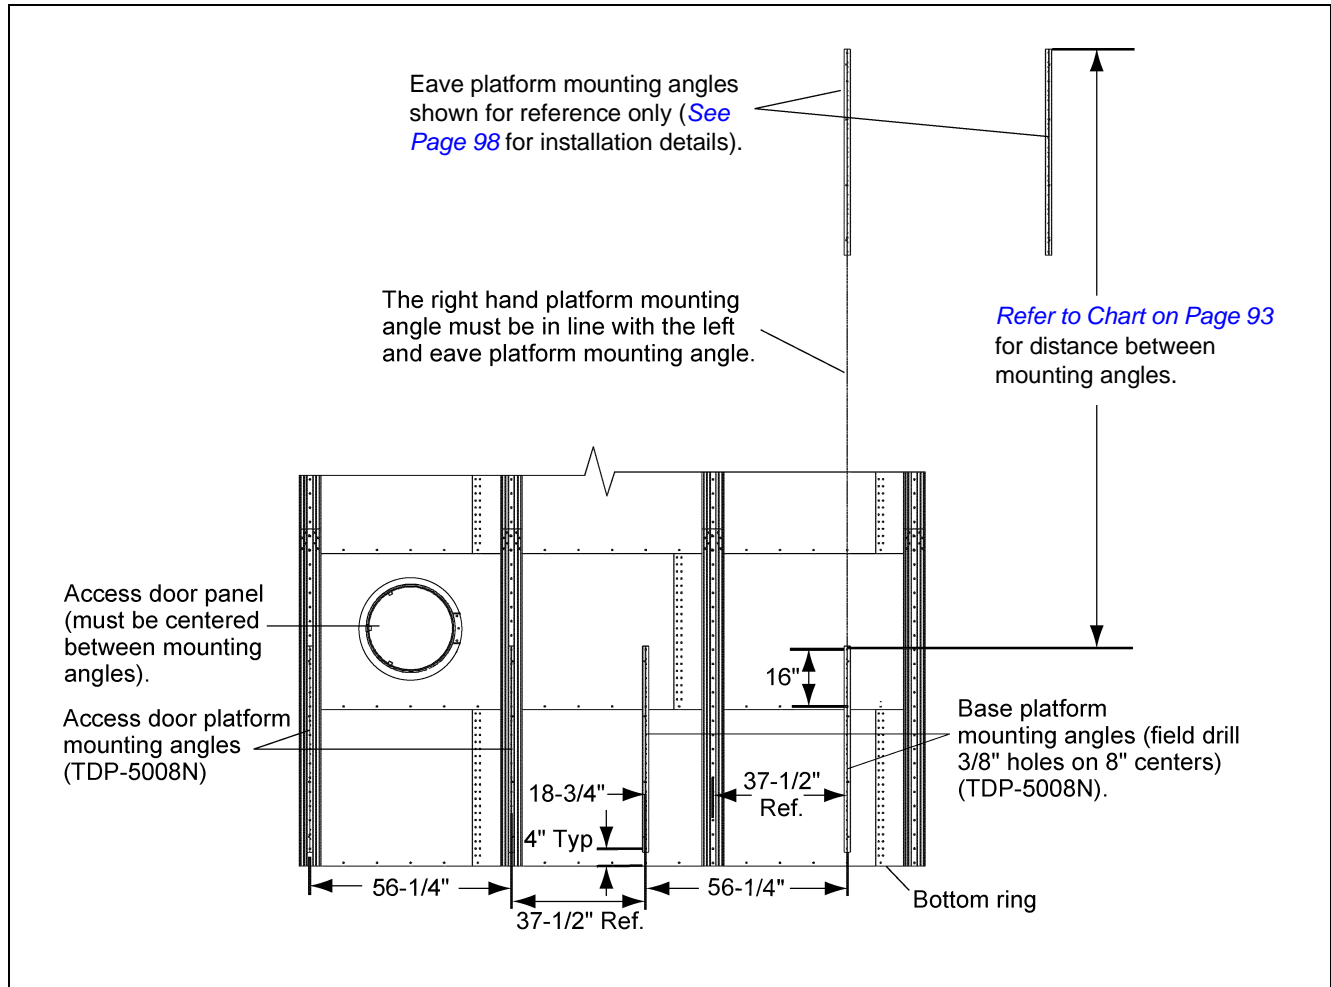

Figure 8R
Figure 8R shows the location of the access door platform mounting angles. All four (4) angles must be mounted starting 16" above the top horizontal seam of the bottom ring with the first mounting angle directly in line with the left-hand eave mounting angle. The second mounting angle must be located 56-1/4" to the left of the first mounting angle. The remaining two (2) mounting angles will be installed in the stiffeners located on each side of the access door. When installed correctly, there should be 37-1/2" between the two (2) sets of mounting angles. Pay careful attention when installing these angles. The dimensions and locations of these angles are very critical to assure proper fit of all parts.